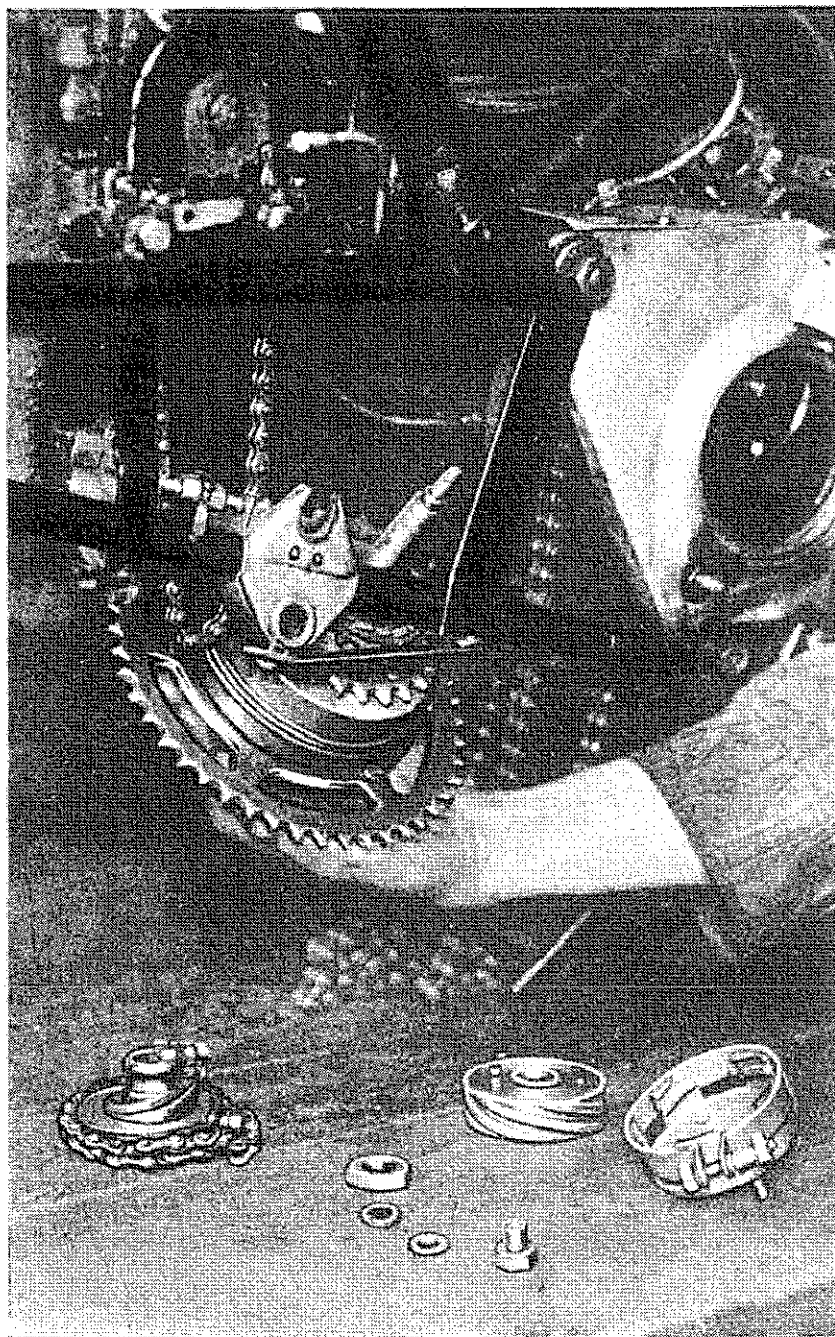

Fig. 1.—HOW THE GEAR DROPS THROUGH THE FRAME WHEN DISMANTLING.
**T**HIS is removed quite easily from the frame as follows : Disconnect kick-starter chain from rear end, take out hollow bolt in left-hand gear lug, remove footrests (for "freedom"), rear chain, gear pedal, sleeve nut and washer, outer drum and strap, washers on shaft (note the order in which they come off), undo  $\frac{5}{8}$ -inch shaft nut and remove inner drum, lift up gear, take off kick-starter device complete, and slip off chains ; drop gear through bottom of frame (see Fig. 1).